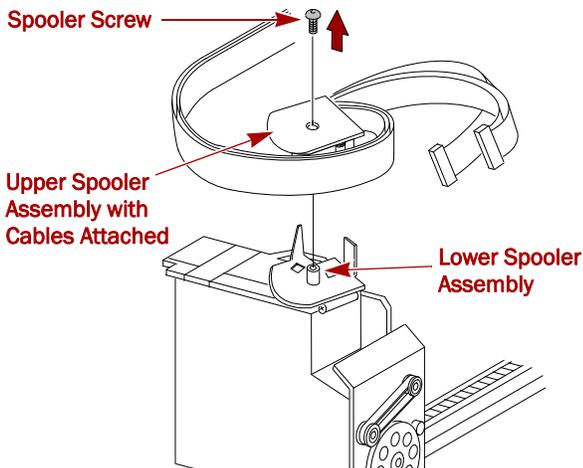

Figure 2. Removing the Spooler Attachment
- Remove and retain the **screw** from the top of the spooler assembly (Figure 2).
- Pull out the **upper spooler assembly** with the flex cables still attached as shown in Figure 2, then carefully set them aside.